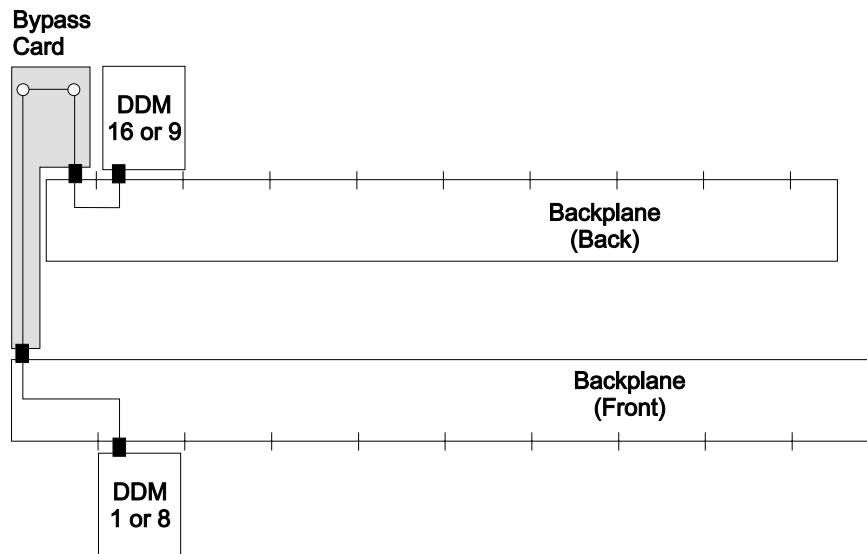

Figure 56. SSA Link Failure, Bypass Card and Two DDMs (S008144m)
- The degraded link is between two end DDMs, on different backplanes, and the bypass card that links them. See Figure 56.